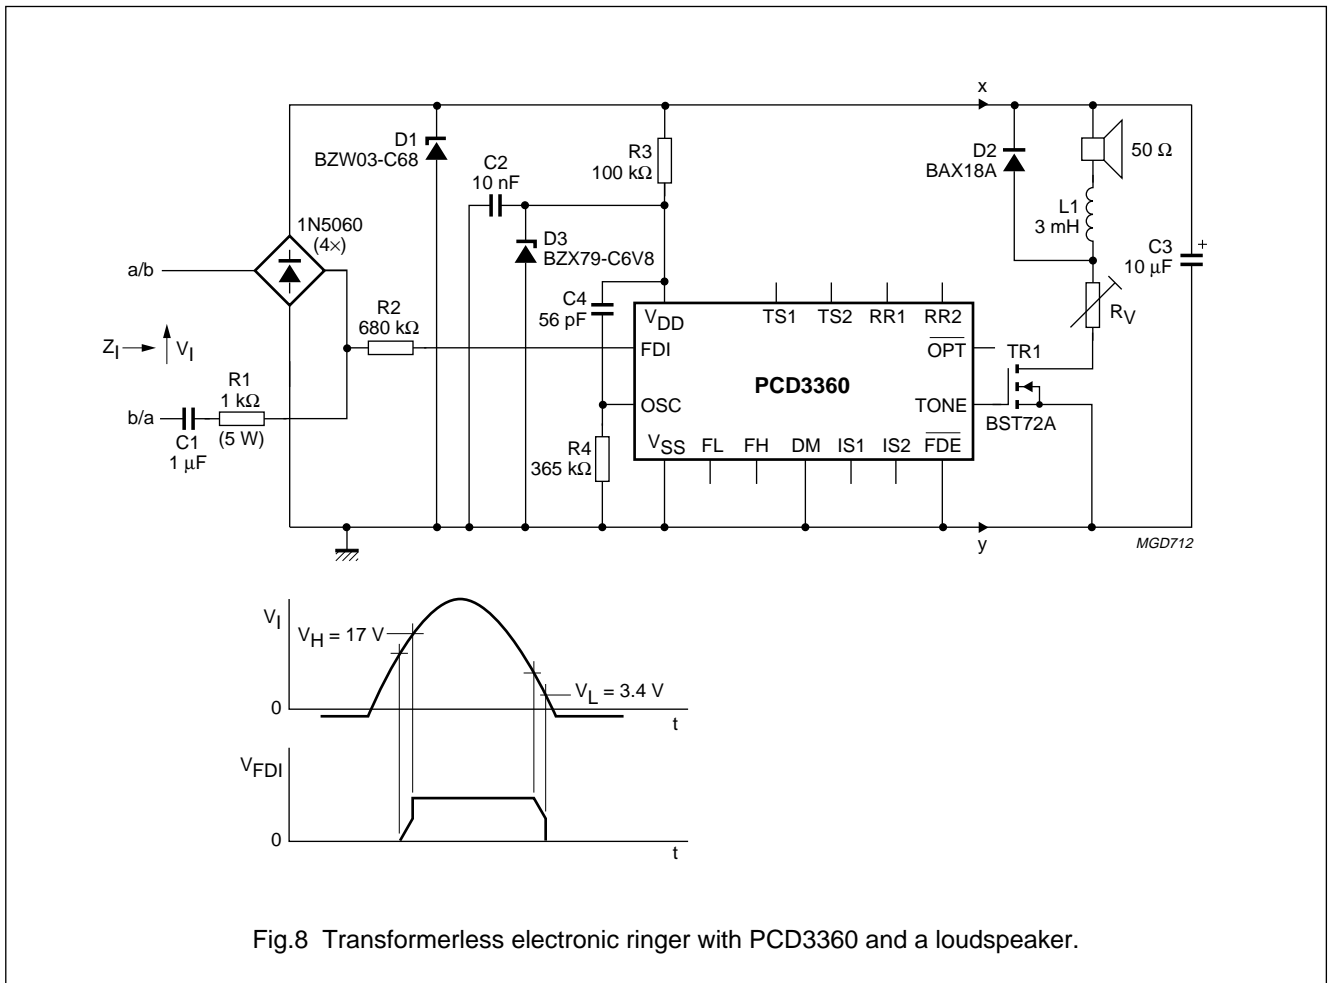
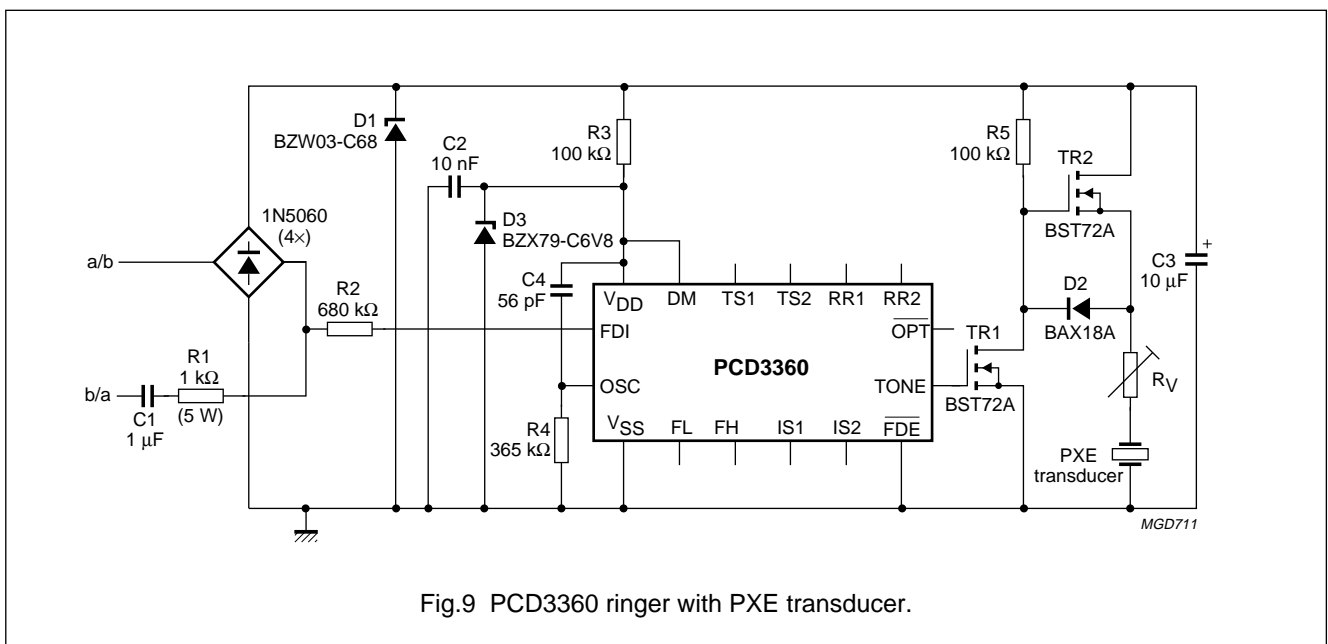

Fig.8 Transformerless electronic ringer with PCD3360 and a loudspeaker.
Fig.9 PCD3360 ringer with PXE transducer.
- $R_{OSC} = 365\text{ k}\Omega$; $C_{OSC} = 56\text{ pF}$; $\text{FDI} = \overline{\text{FDE}} = V_{DD}$; all other inputs and outputs open-circuit; see Figs 8 and 9.
Application of the PCD3360 in a telephone ringer circuit together with a loudspeaker is shown in Fig.8.
- The value of R2 (680 k Ω in Fig.8).
- The value of R3 (100 k Ω in Fig.8).
Application of the PCD3360 together with a PXE transducer is shown in Fig.9. The only significant difference between Fig.8 and Fig.9 is the output stage. Two BST72A transistors provide an output voltage swing almost equal to the voltage at C3. Pins IS1 and IS2 are inoperative because $\text{DM} = \text{HIGH}$. Volume control is possible using resistor R_V .